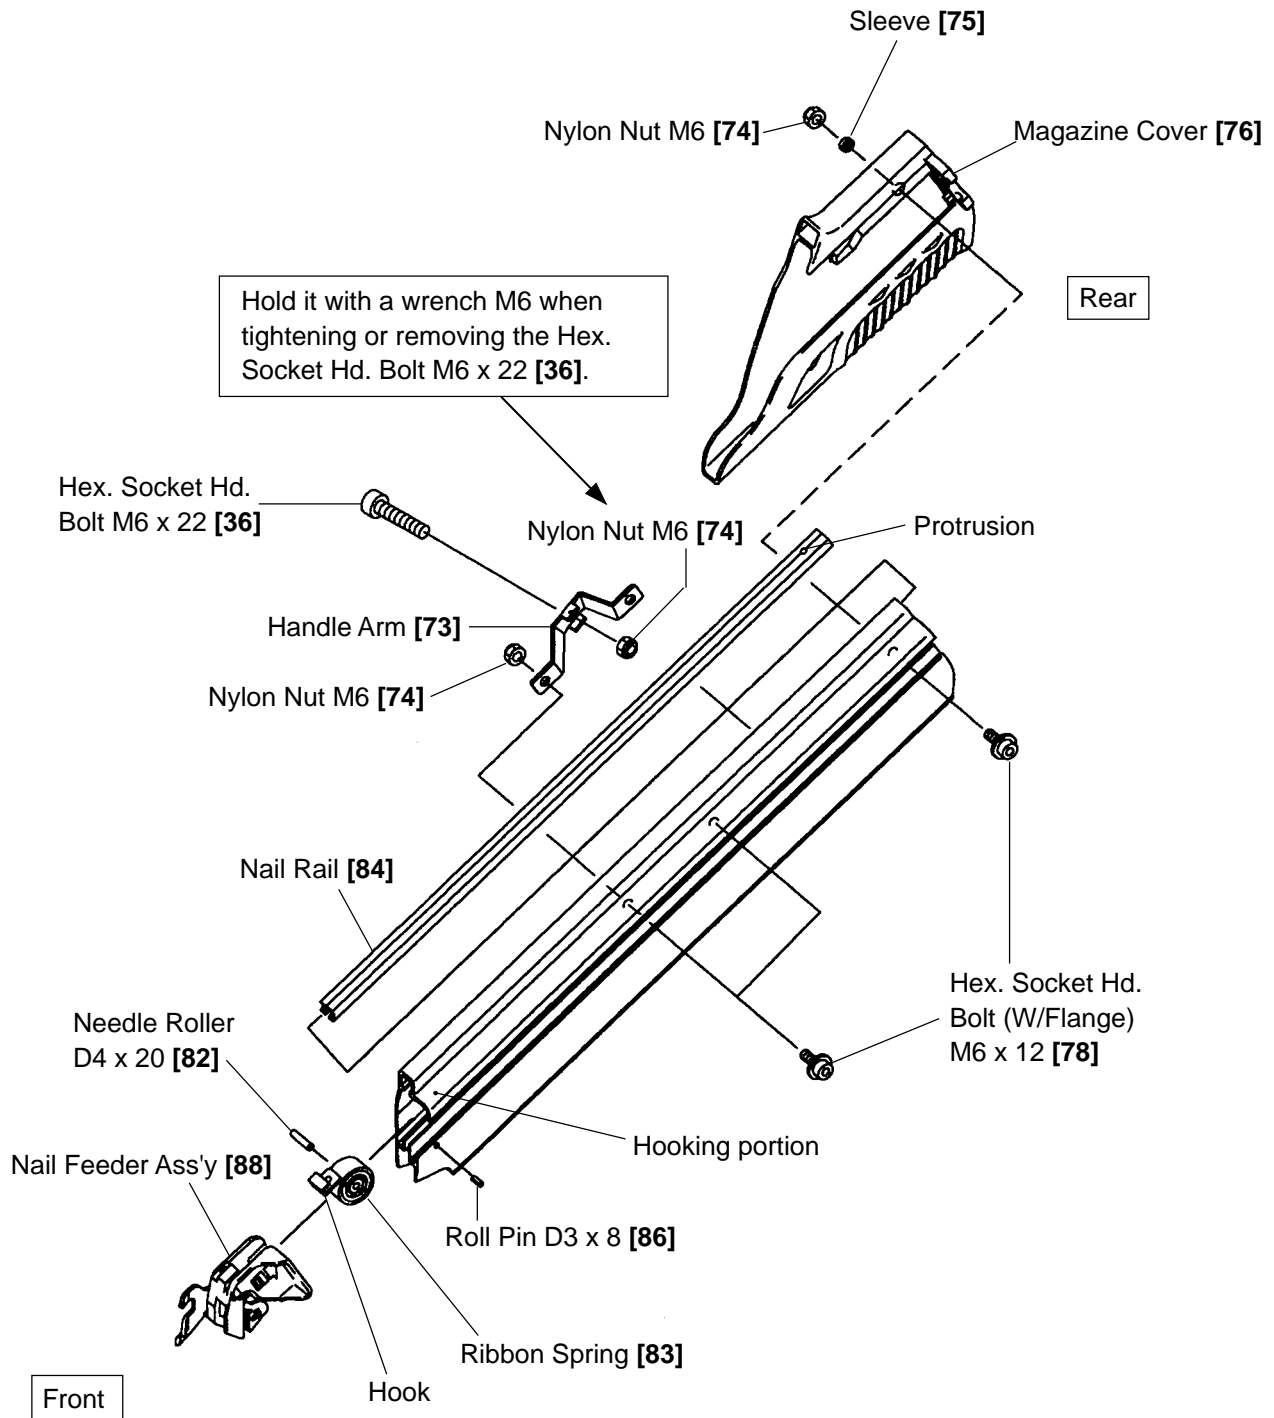

Fig. 23
(1) Magazine [77], Nail Feeder Ass'y [88] and the related parts (See Fig. 23.)